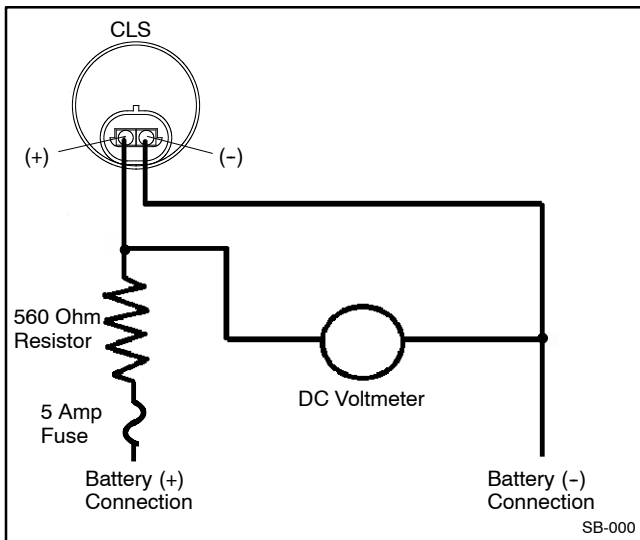

Figure 6-7 CLS Testing
1. Setup the test connections as shown in Figure 6-7 but do not connect the battery (+) connection at this time.